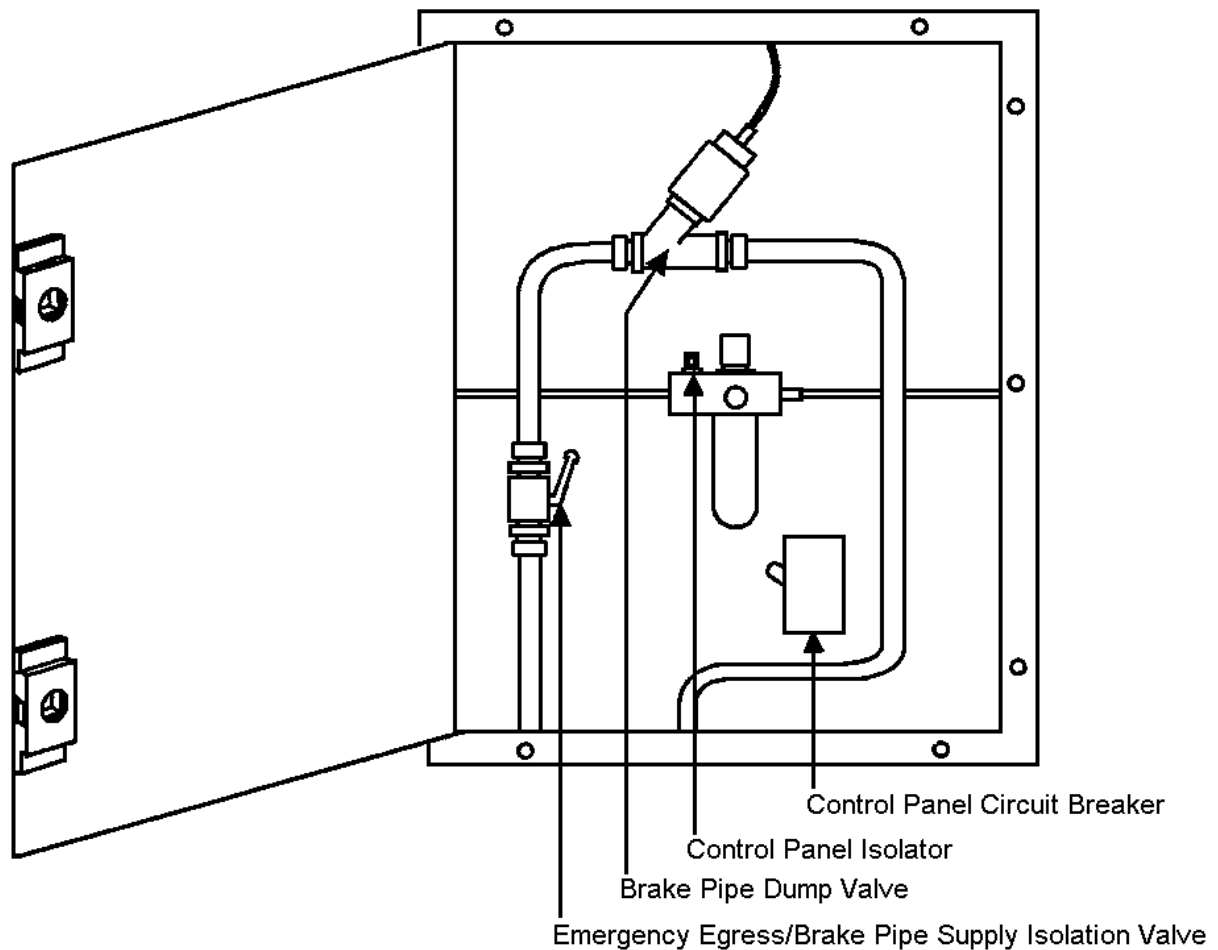

Figure 1: Location of Brake Pipe Dump Valve
4. Position a new brake pipe dump valve (see Materials item 1) and refit 1¼" BSP brake pipe connections, ensuring that the valve is correctly orientated (see Figure 1).